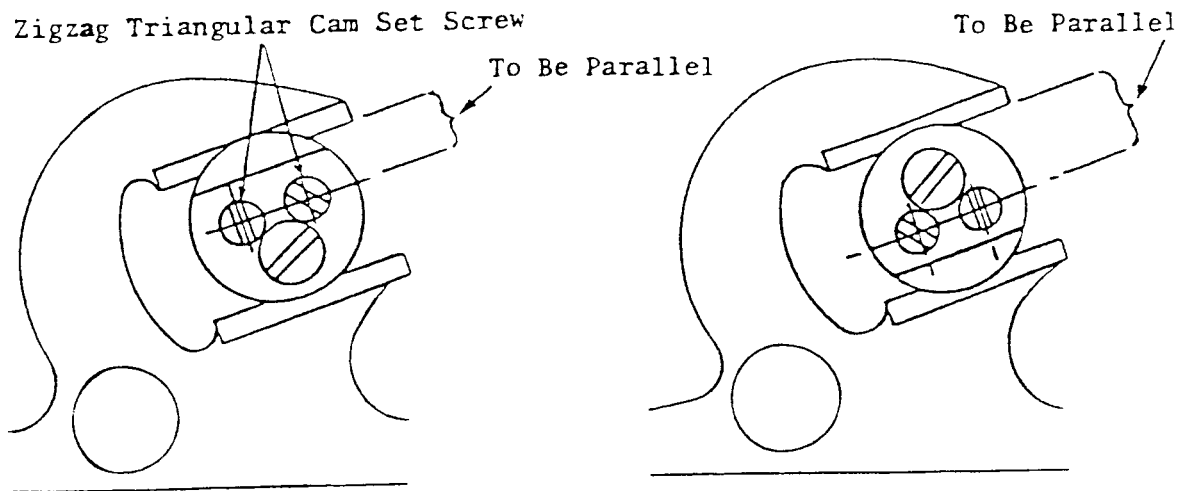

Fig. 6
3. If the triangular cam set screws are not located parallel to the bearing face of the stitch regulator fork, loosen arm shaft (horizontal) worm gear set screws and turn arm shaft worm gear as required until the triangular cam set screws are in either one of the two positions shown in Fig. 6. Then securely tighten arm shaft worm gear set screw.